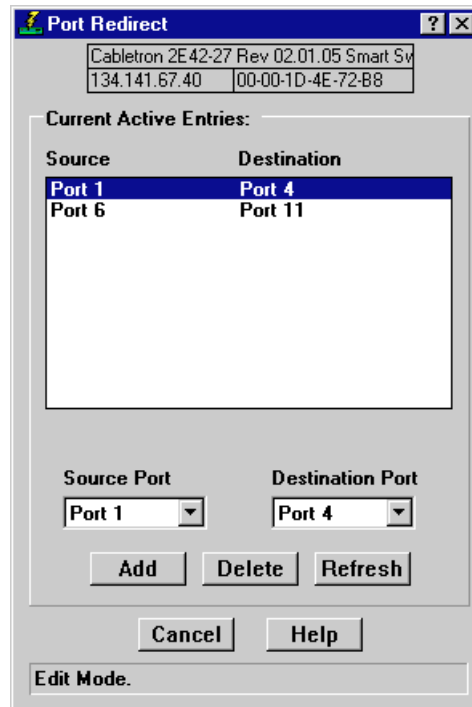

Figure 2-17. The Port Redirect Window
The Port Redirect window (Figure 2-17) allows you to redirect traffic from one or more interfaces directly to another interface — essentially mirroring the traffic at the “redirect” interface. This feature is useful in that it allows you to use an external analyzer on the “redirect” port to analyze data, without disturbing the normal switching operations at the original source ports. The Port Redirect window displays the interface remap table and allows you to add new entries to and delete existing entries from this table. When you set a source port to redirect to a destination port, the destination port will transmit out all packets received or transmitted on the source port.
2. Click **Port Redirector**. The Port Redirect window, Figure 2-17, opens.